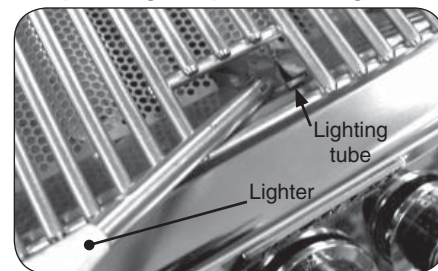

Fig. 19-2 - Manual lighting
2. Insert either a burning long-barrel butane lighter or a burning long-stem match through the cooking grids to the top of the lighting tube. (Fig. 19-2). For backburners, hold the flame against the perforated material of the backburner. For sideburners, hold the flame against the burner.
REMEMBER: FOR SAFE MANUAL LIGHTING, PLACE A BURNING MATCH OR BUTANE LIGHTER BESIDE THE BURNER OR TOP OF LIGHTING TUBE - **THEN TURN ON THE GAS** (see Fig. 19-2).